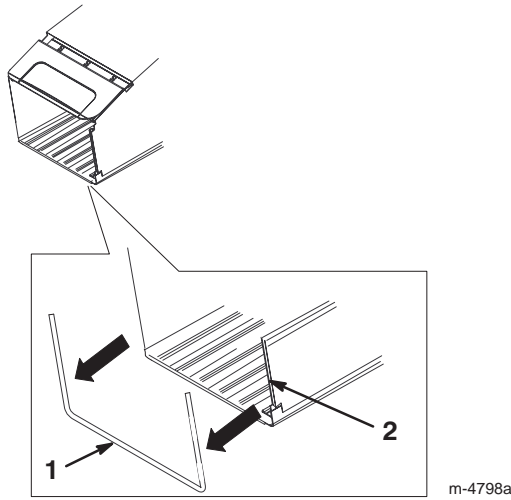

Figure 5
1. Attach the two side channels of the grass bag to the grass bag frame as shown in Figure 5.